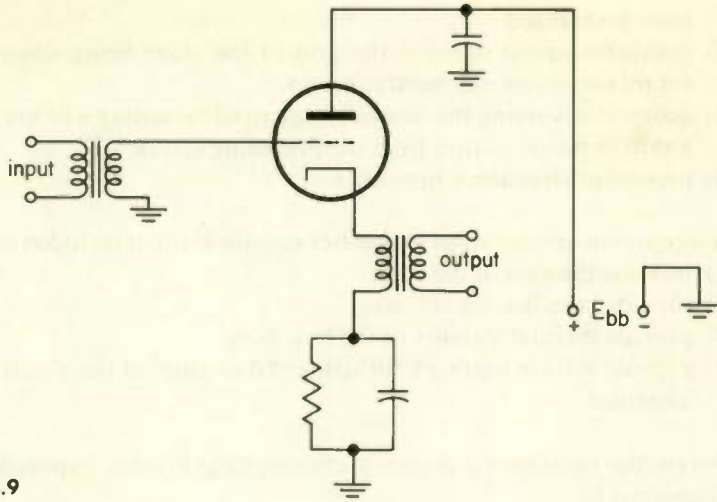

Fig. E.9
- (1) even-order harmonics of the input signal.
- (2) odd-order harmonics of the input signal.
- (3) a combination of both even- and odd-order harmonics of the input signal.
- (4) only the fundamental input frequency plus its first even harmonic.
87. Identify the circuit in Fig. E.9.